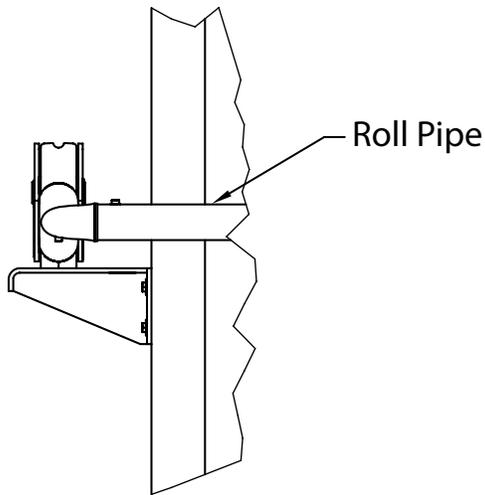

Figure 34-1
- 1) **Figures 34-1 & 34-2.** Cut roll pipe down so the chain on the 90 degree casting is aligned with the arm.